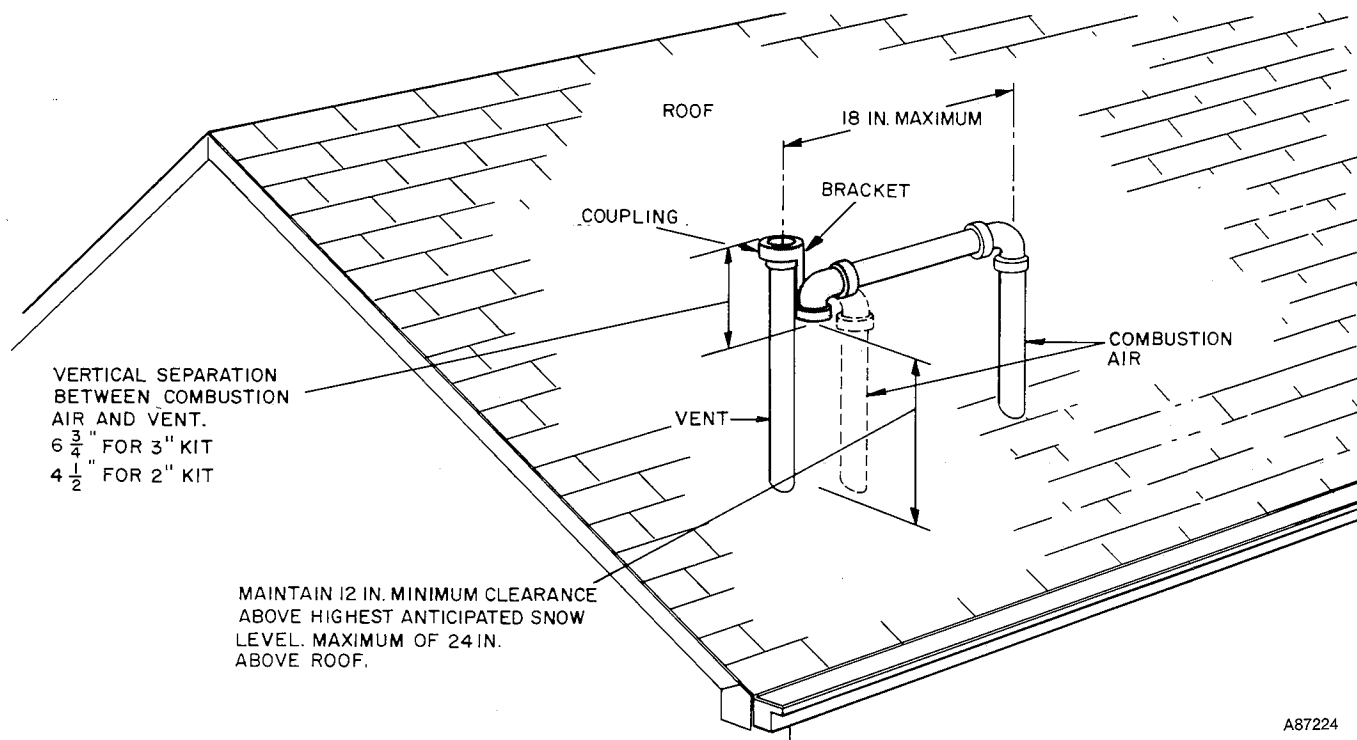

Fig. 2—Roof Termination (Preferred)
All combustion-air and vent pipes must be airtight and watertight. Pipes must terminate exactly as shown in Fig. 2 through 4. A failure to adhere to this warning can cause property damage, physical injury, or death.
NOTE: Do not count the elbows to which the terminal bracket attaches or any elbow between the bracket and open end of the pipe. See shaded areas in Figs. 2 through 4. Likewise, do not count pipe sections inside furnace casing.
The combustion-air and vent pipes must terminate outside the structure. The factory-supplied vent termination kit (required) must be installed as shown in Fig. 2-4. Roof termination, shown in Fig. 2, is preferred.
NOTE: The shaded portion of Fig. 2 thru 4 is considered part of the vent terminal and these items are provided in the vent terminal kit. They should not be counted, therefore, in pipe diameter calculations.
3. Loosely install pipe coupling, provided in kit, on properly cut vent pipe. Position coupling so that bracket will mount as shown in Fig. 2.
5. Install bracket as shown in Fig. 2.
6. For applications using combustion-air pipe option, indicated by dashed lines in Fig. 2, install 90-degree vent street ell into 90-degree elbow, making a U-fitting. Install the open end of 90-degree vent street ell onto combustion-air pipe.